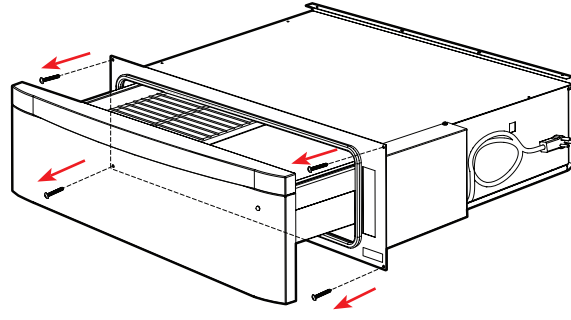

Fig 1
2. Open drawer half way and remove the four (4) screws securing the drawer to cabinet (**Fig 1**).